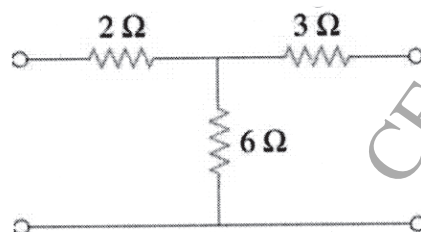

Fig. 2
- b) Find h-parameters for the network shown in Fig. 2. [6]